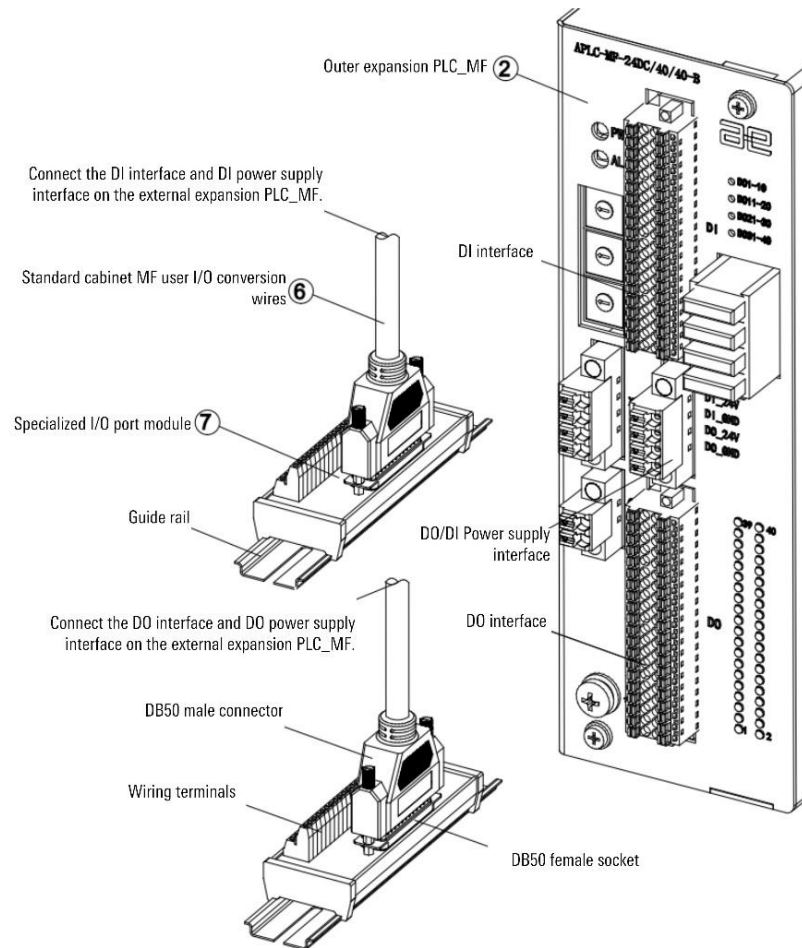

Figure 17-11 Diagram of connecting user I/O terminals
Step5. Connect one end of the two standard cabinet MF user I/O adapter cables to the DI interface and DO interface on the external expansion PLC\_MF, and the other one end is connected to the user I/O terminal module, refer to Figure 17-11. PLC\_MF baud rate setting refers to Table 16-14.